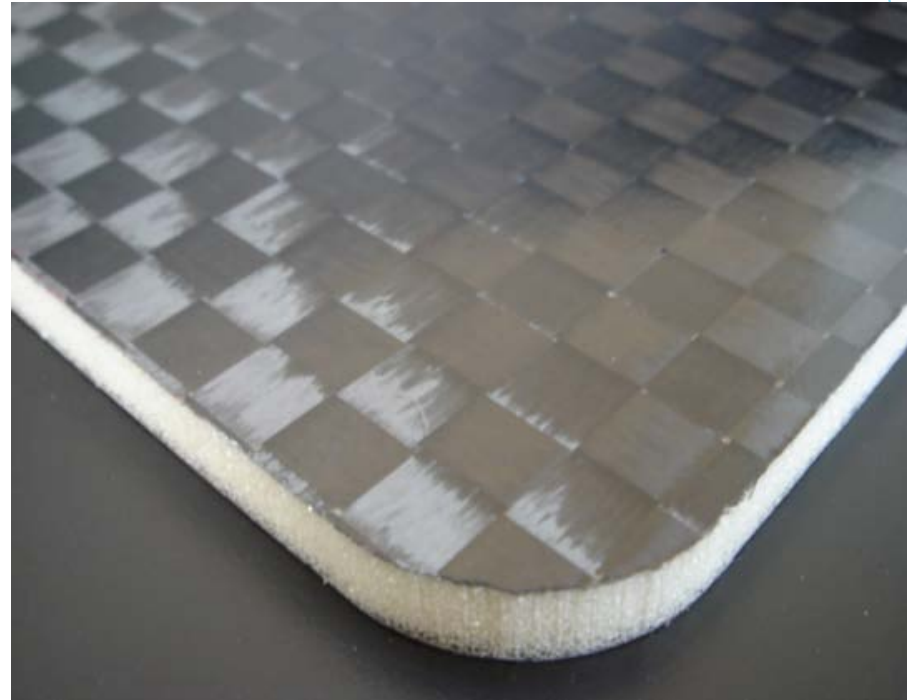

Figure 6 - Sandwich structure with CFRP in the outside and EVA foam in the middle [4].
- ▶ Figure 6 shows a reference for this concept.